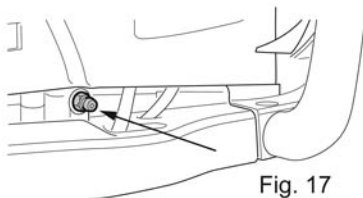

Fig. 17
- > Every 20 working hours, top up the level with special molybdenum bisulphur lubrication, injecting it into the lubricator (Fig. 17).